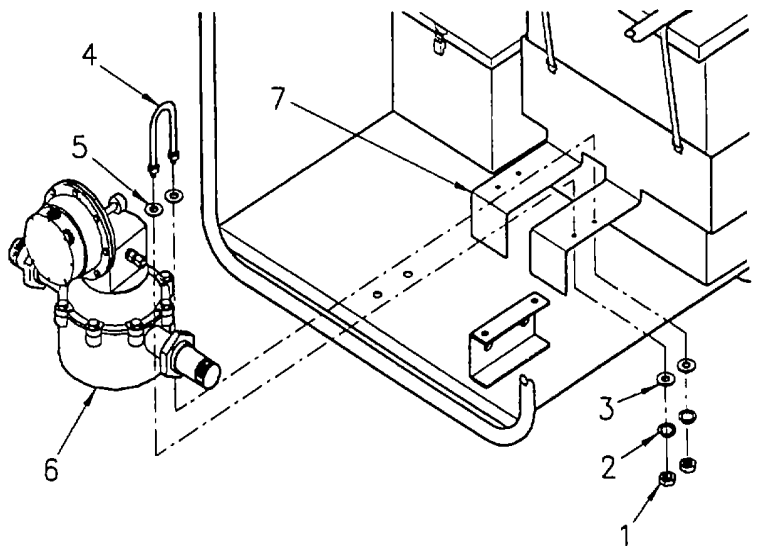

Figure 4-9. Ratio-Feeder Assembly
(1) Remove nuts (1, Figure 4-9), lockwashers (2), flat washers (3), clamp (4), and flat washers (5) securing ratio-feeder assembly (6) to frame assembly (7).
(2) Remove ratio-feeder assembly (6) from frame assembly (7).